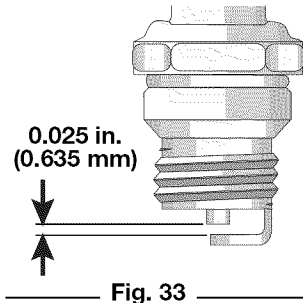

Fig. 33
5. Replace cracked, fouled or dirty spark plug. Set the spark gap at 0.025 in. (0.635 mm) using a feeler gauge (Fig. 33).